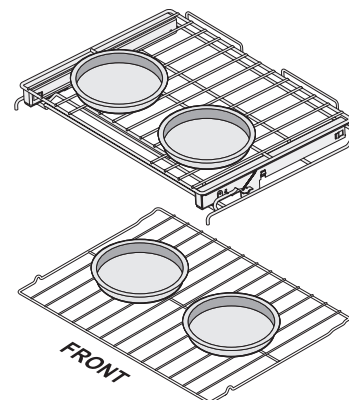

Figure 10: Pan spacing for two rack baking
- Position cookware as shown in Figure 10. Allow at least 2-4 inches (5-10 cm) of space between cookware for proper air circulation when using multiple racks.